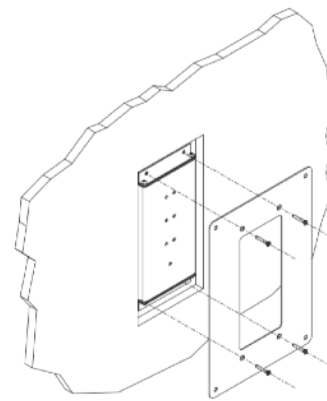

Figure 3
5. Attach Flush Cover Plate to the SPD unit using the 4 Mounting Screws provided (Fig 3).